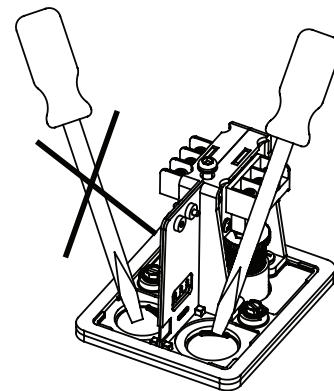

Fig.9
2. Carefully place a screwdriver on the edge of the knockout and sharply apply a force sufficient to dislodge the knockout plug. See Fig 9.